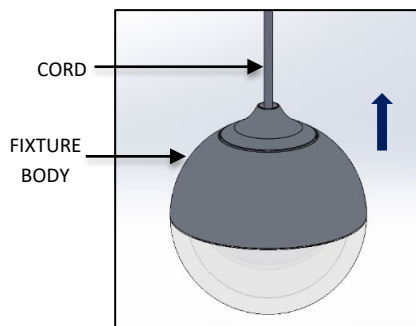

FIG. 9 – FIXTURE INSTALLATION
5. Raise the GLOWBALL FIXTURE and pass the cord through MOUNTING BRACKET as shown below in FIG. 9. Adjust fixture drop to desired height. Mark cord with marker inside of DRIVER MOUNTING BRACKET as shown below in FIG. 10. Trim off excess cord leaving minimum of 8.00" past the top of the DRIVER MOUNTING BRACKET all thread.